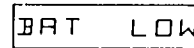

Fig. 40
N.B. 2. If Fig. 40 appears on the display after the power is ON, or while distance measurement, replace the battery with the charged one or charge the battery.